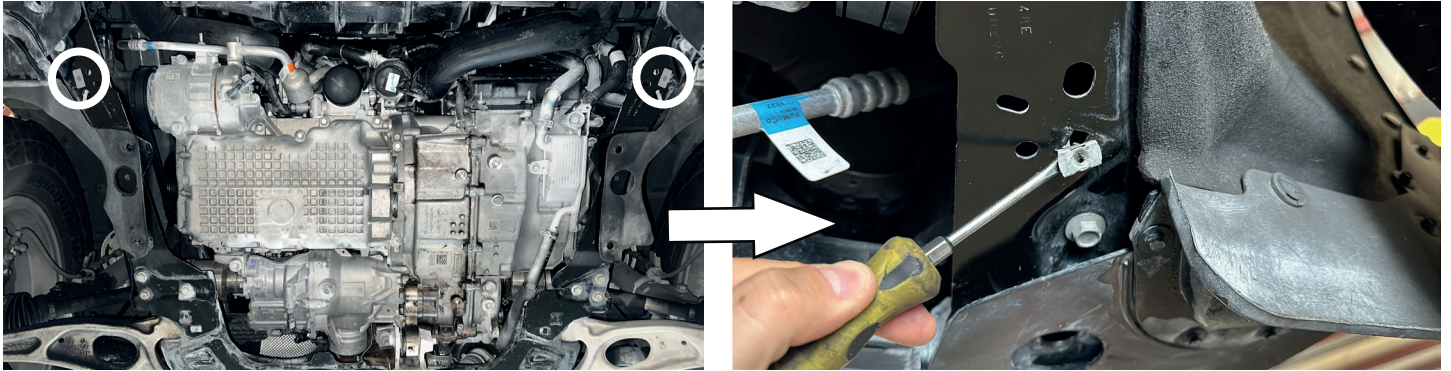

Fig. 1
1. Remove factory cage nuts on both sides of the vehicle as shown in Fig.1.